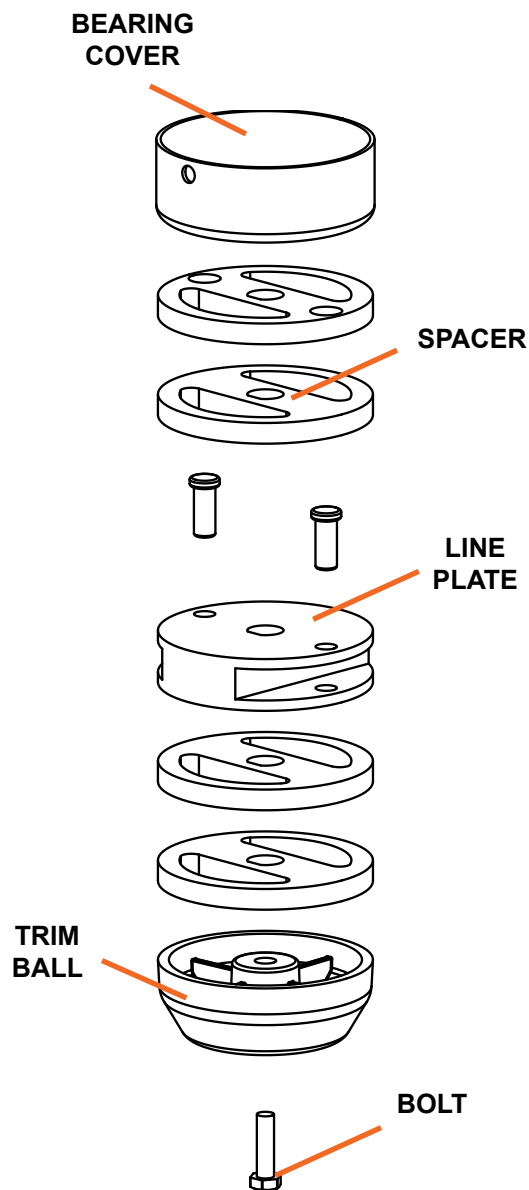

Figure 11
Improper installation can cause damage to the trimmer bearings. Follow directions carefully to protect the trimmer/mower from damage. Assemble components in the order shown (see figure 11.)
1. Place the spacer and bearing cover (with the lip facing up) onto the shaft (Figure 11).